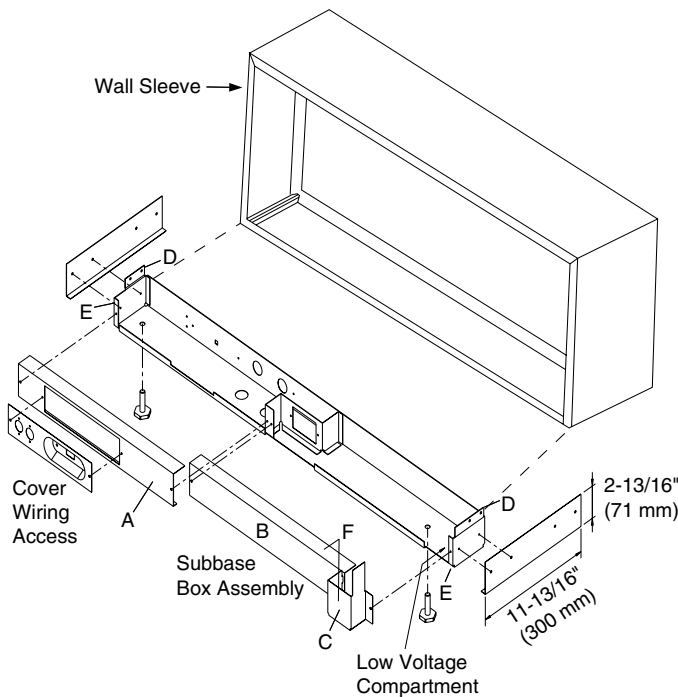

Figure 55 - Dimensions
3. Align the back edge of the flange on cover A (Figure 54, next page) to front of the wall sleeve flange. (Figure 55, next page)